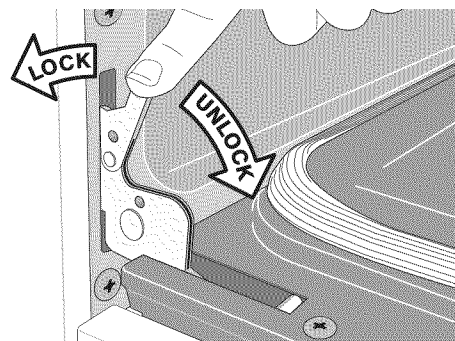

Figure 43: Door hinge locks
2. Pull the door hinge locks on both left and right door hinges down from the oven frame completely toward the oven door (See Figure 43). A tool such as a small flat-blade screwdriver may be required.
4. Push the door hinge locks up toward and into the oven frame on both left and right oven door hinges to the locked position (Figure 43).